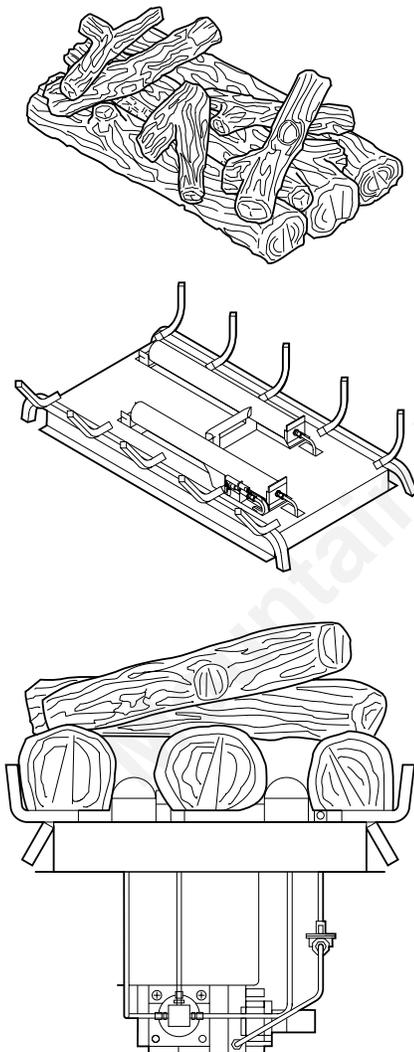

Figure 12
Step 8. The heater includes a unitized set of ceramic fiber logs. The heater and logs are assembled as shown in *Figure 12*. Handle these logs with great care. The logs can be easily damaged, but when handled properly they can provide years of performance and enjoyment.